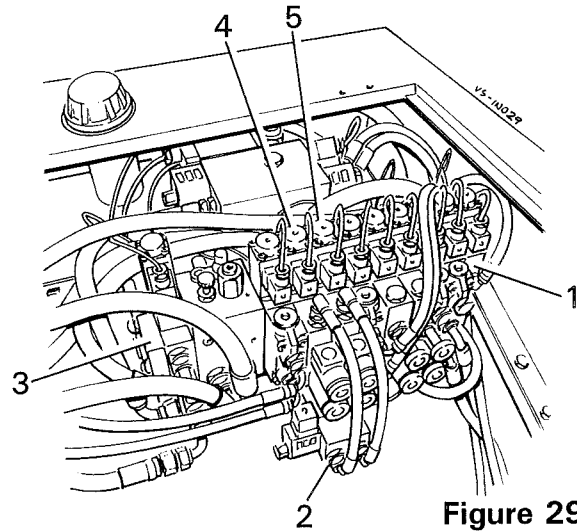

Figure 29
The hydraulic ram services and discharge elevator drives are supplied with hydraulic oil from the tractor. A minimum supply of 50 litres/minute is fed through the pressure filter (*item 1, figure 33*) into the flow divider section of the auxiliary valve bank (*item 1, figure 29*). The system will accept up to 80 litres/minute maximum. The link valve (*item 2, figure 29*) allows both digger ram circuits to be operated simultaneously using the 'Digger Share' switch on the control box. The proportional valve (*item 3, figure 29*) which controls the discharge web and spreader motors has priority over the ram service valves. The flow rate through each ram service valve is controlled by the spool size and the individual flow settings. The return oil flow from the valves and motors recombines and is returned to the tractor, ideally through a low back pressure or free-flow return coupling. No separate relief valve is fitted to the circuit, the system relies totally on the tractor relief valve.